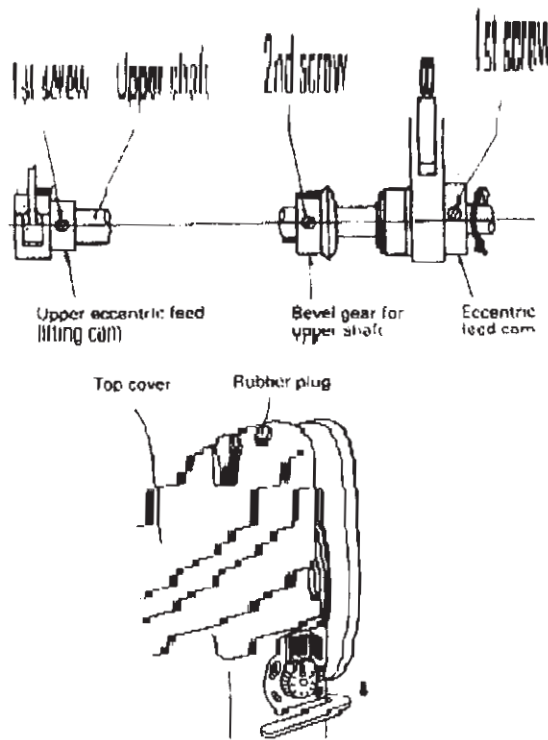

Fig.33
30. Adjustment of feed timing (Fig.33):
1) The standard position of the eccentric feed cam and eccentric feed lifting cam are illustrated to Fig.33